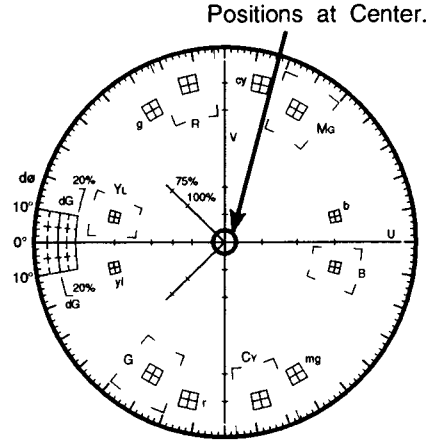

Fig. 5-41
- Adjust data with the **ARROW** keys so that vector positions at the center of the Vectorscope as shown in Fig. 5-41.